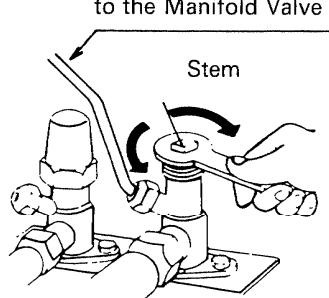

Fig.9
- e) Remove the cap from the wide tube service valve and turn the stem gradually until it is back seated. Fig. 9